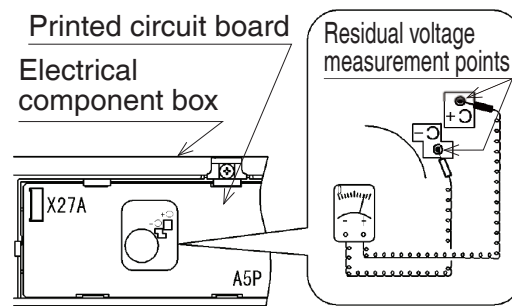

Figure 27
- Check the residual voltage of the indoor unit according to the instructions. (Refer to **Figure 27.**)